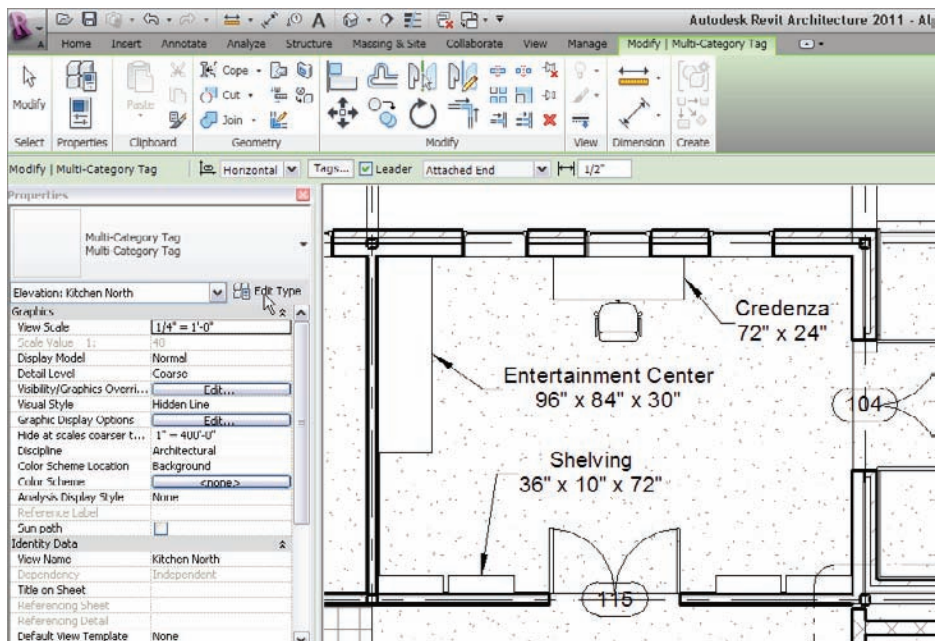

FIGURE 11.91 Adding the multi-category tag to the entertainment unit. Make sure you adjust the tag to show the information unobscured.
14. On the Options bar, select the Leader option, as shown in Figure 11.91.
15. Hover your mouse over the furniture items in the room shown in Figure 11.91. Notice that the tag is reporting the information for any item you hover over. Pick the entertainment unit to the left of the room.
20. Using the grips on the tag, move it out of the way, and adjust the leader so it looks like the one in Figure 11.91.
21. Add another tag to the credenza located on the north wall. Adjust this tag as well (see Figure 11.91).
22. Add one more tag to the shelving on the south wall of the room, and adjust the leader so it looks acceptable (again, see Figure 11.91).